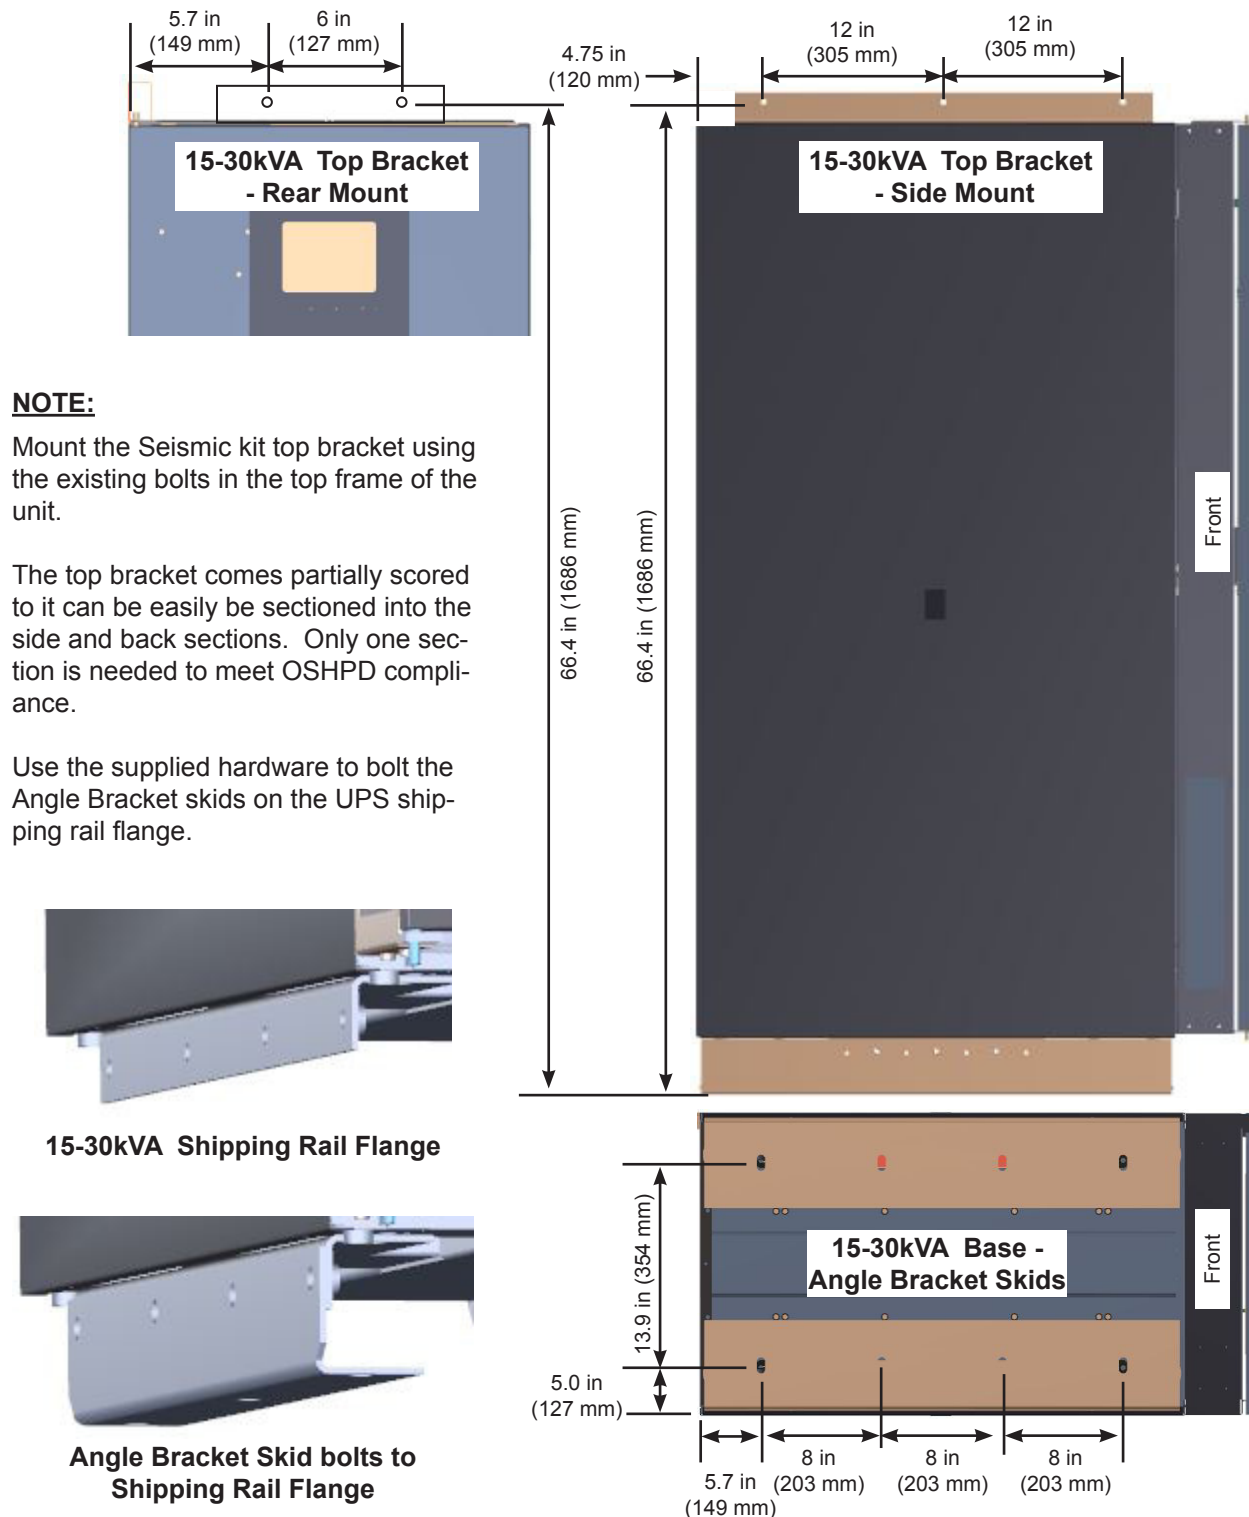

FIGURE 8.8 SEISMIC ANCHORAGE HOLE LOCATIONS – 15-30kVA
1. **Bolt Skids to Floor:** Use 5/8" (16 mm) diameter anchor bolts. There are 0.63" (16 mm) diameter holes provided in the UPS base. See Figure 8.8 – 8.10 for the hole locations and dimensions for the specified UPS models.